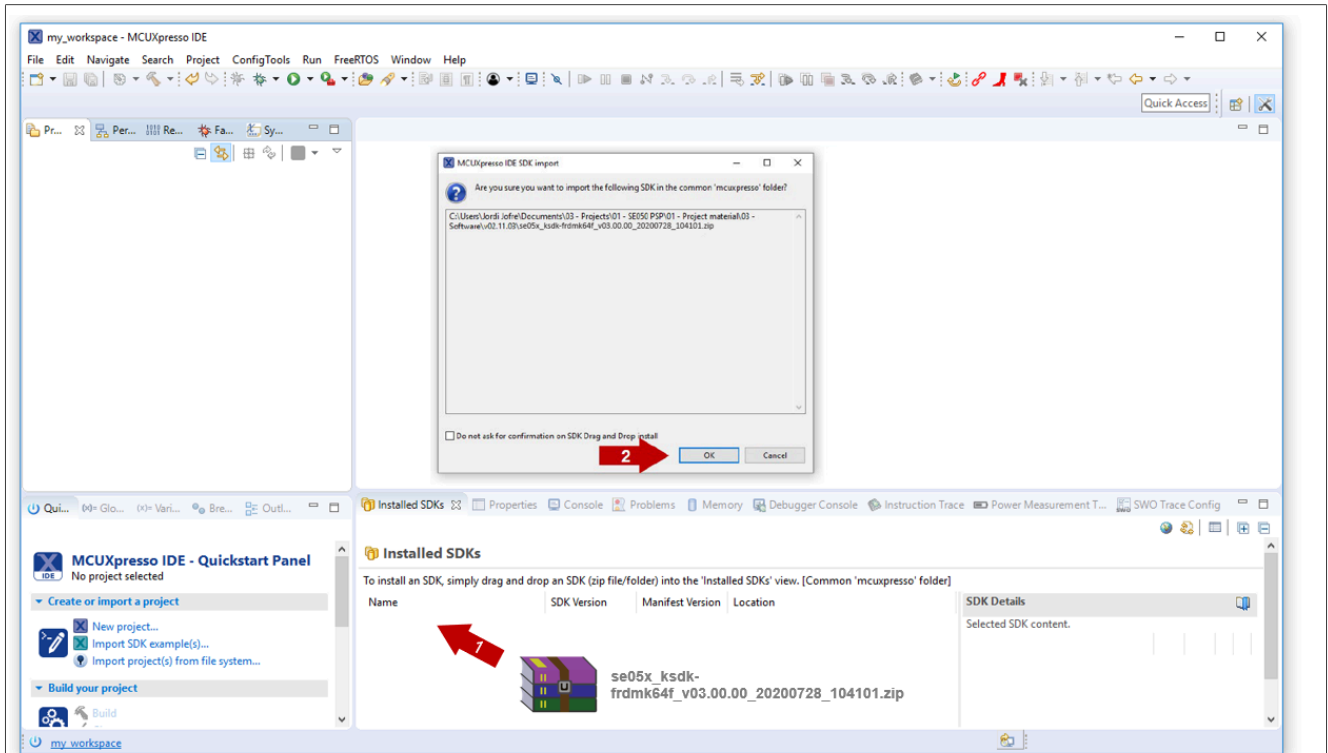

Figure 25. Import FRDM-K64F board SDK into MCUXpresso environment
After downloading the FRDM-K64F SDK, we need to install it in the MCUXpresso workspace. To install the SDK, (1) drag and drop the FRDM-K64F SDK zip file in the **Installed SDKs** section in the bottom part of the MCUXpresso IDE and (2) click **OK** as shown in Figure 25: